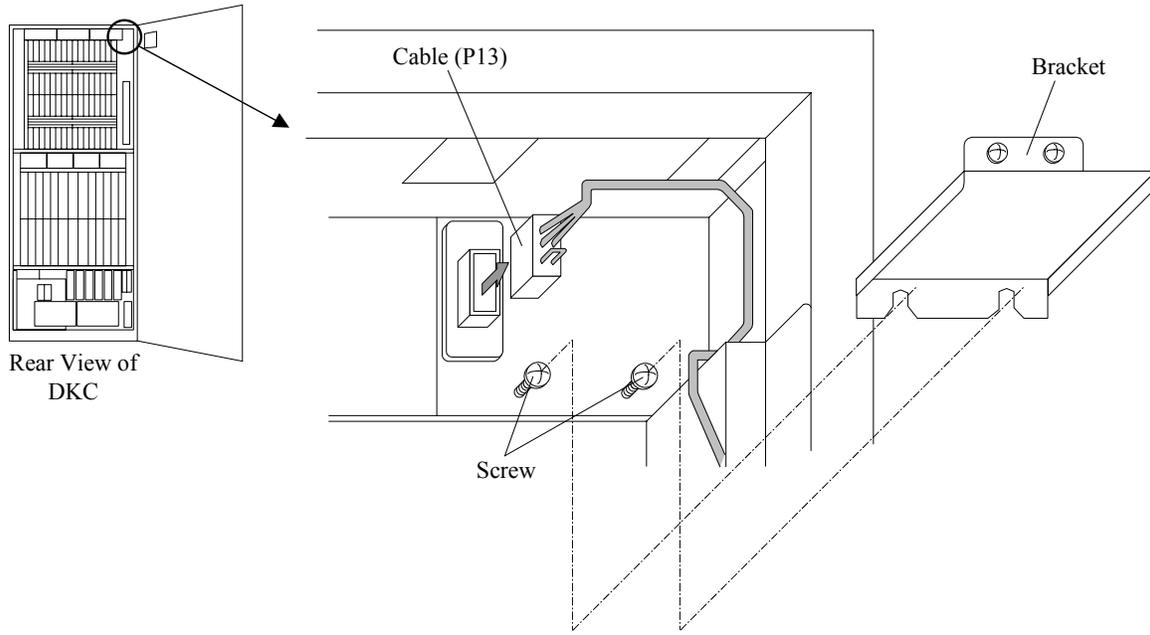

Fig. T2-1 Removal of Cable
- c. Connect the cable to the DKC frame. Refer to Fig. T2-1.